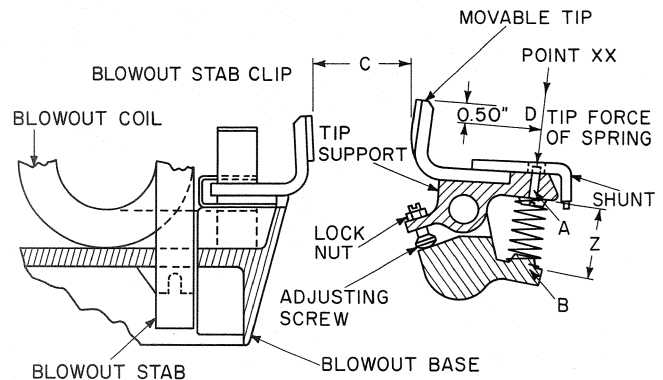
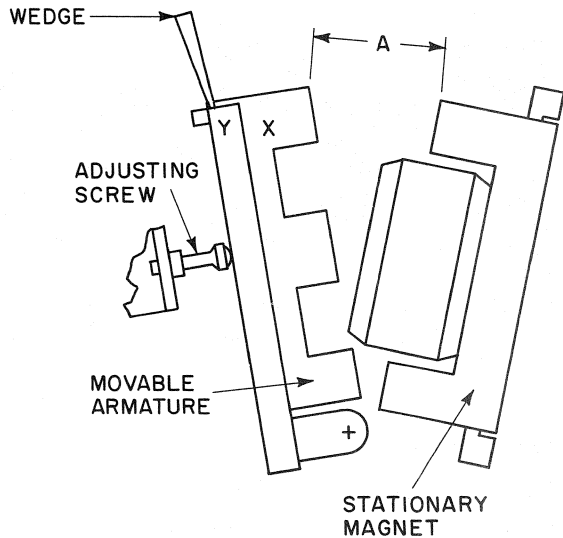

Fig. 14. Movable and stationary contact structures
Fig. 15. Magnet structure (a-c and d-c)
1. (See Fig. 14 and Fig. 15.) With the contacts just touching, measure the magnet gap "A" per Fig. 15. If the gap is less than .23-inch, replace both the movable and stationary contacts. Contacts not replaced at this time may overheat or weld together. Wedge the top of the armature away from its supporting bracket as far as it will go (see Fig. 15) when measuring the "A" dimension.
2. Measure per Fig. 14, 1/2 inch down from top of contacts. Initial force is the force in direction of arrow at "D" that will just start movable contact in motion. Final force is force in same direction at "D" that will just part contacts when contacts are fully closed. Force measurements will only be required if contact springs have been damaged physically or thermally.
3. Spring force as measured on Spring Seat at Point XX per Fig. 14.
The contacts are adjusted to make at the same time within 1/64 inch. When replacing the contacts, check this adjustment by picking up the contactor mechanically until the contacts of the first pole are just touching each other. The maximum gap between the contacts of any other pole of a contactor must not exceed 1/64 inch. Adjust the movable contact position to obtain this requirement as well as the wipe per Table II, by means of the set-screw in each movable tip support. The setscrews should be locked in their final position by means of their lock-nuts. (See Fig. 14.)
Open the disconnect assembly to its service position; the contact forces, per values given in Table II can then be easily measured directly over the spring seat as shown in Fig. 14.
Contact gap "C" (see Fig. 14) must be $1.00 \pm .02$ -inch. The "C" dimension can be obtained by slightly moving the back-stop adjusting screw. When the "A" dimension with tips fully open and just touching and the "C" gap are obtained, the initial and final contact forces should be properly set without further adjustment.